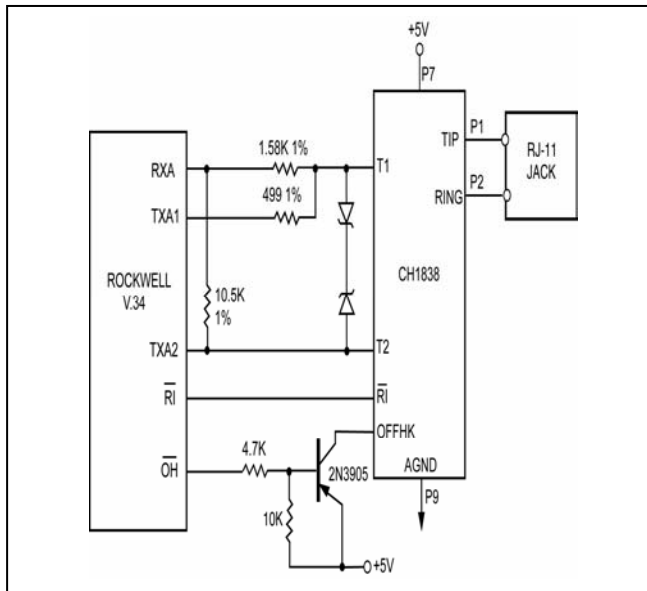
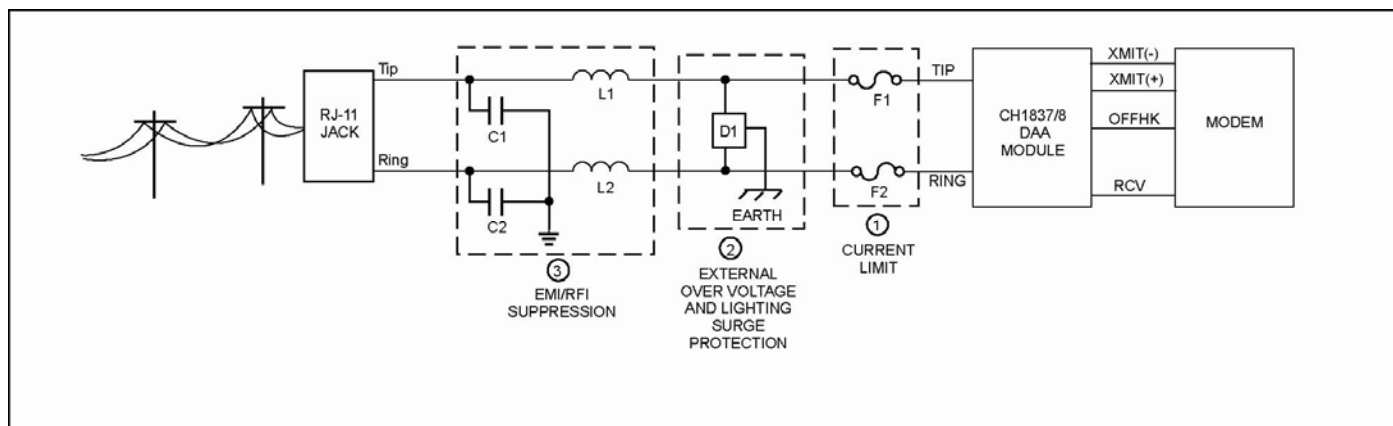

Figure 3. CH1838 Typical Connection to Modem.
Figure 5. PSTN Line Interface.
Pins RCV and XMIT(+) are replaced by pins T1 (Pin 8) and T2 (Pin 5). T1 and T2 are connected directly to the internal isolation barrier circuitry. Figure 3 shows a typical application using a V.34 modem chip set with built-in 2-to-4 wire conversion. Use PSTN line interface as shown in Figure 5. Other application notes for specific chip sets are available from Cermetek.
To further protect the end product containing the CH1837/8 from field failure due to large transients present on poor quality lines and to maintain U.L. recognition, an additional level of transient protection is required. Refer to Figure 5 for mandatory additional protection circuitry.
- B. In most environments, 2 terminal surge suppressors are adequate. For severe environments, use an external 3 terminal device (as indicated in Figure 5) with an earth ground.